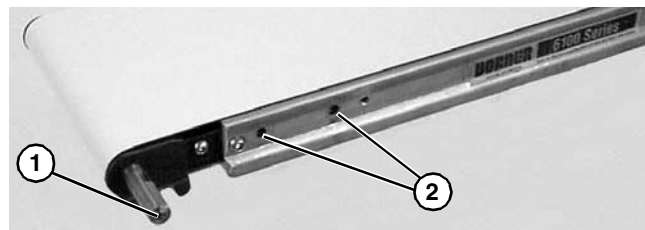

Figure 16
4. Locate drive output shaft (**Figure 16, item 1**) and remove two (2) screws (**Figure 16, item 2**).